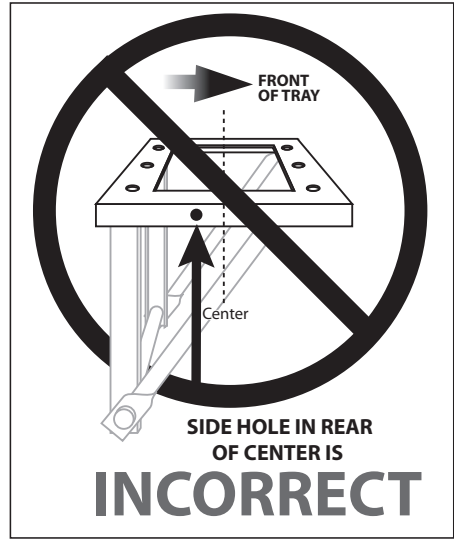

Fig. 6
NOTE: If the rear frame (D) is installed incorrectly, as shown in Fig. 6, the dump lock assembly (B) installation in Step 6 will not engage when the cart tray (A) is in the down position.